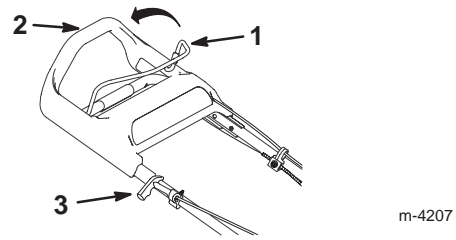

Figure 14
3. Hold the blade control bail against the upper handle (Fig. 14).